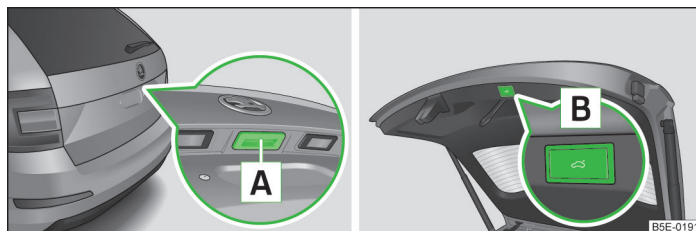

Fig. 21 Lid operation
- With the button in the handle **A** on the outer part of the lid » Fig. 21.
- With the button **B** on the inner part of the lid » Fig. 21.
- Press and hold the button **B** » Fig. 21 on page 45 for longer than 3 seconds.